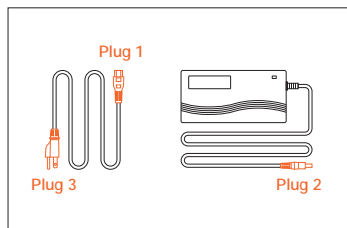

Figure 1
Step 2: Assemble the charger as shown in Figure 1 by inserting the plug (Plug 1) into the transformer.